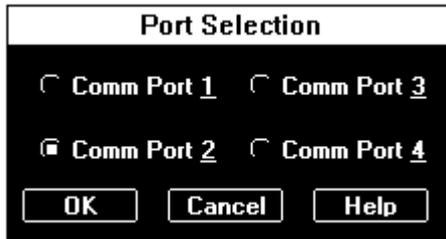

Figure 2-3. Port Selection Window
2. Select Com Port from the Com Link menu. The Port Selection window appears (see Figure 2-3). The currently programmed comm port is indicated by a black dot in the option button next to the selection.